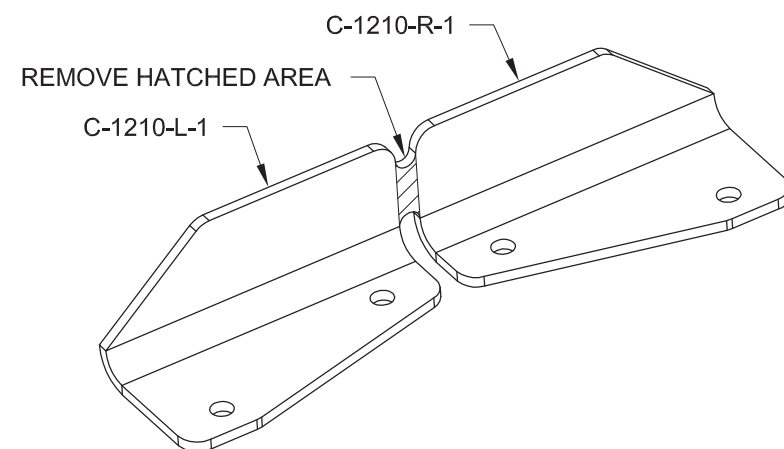

FIGURE 1:
Step 1: Cut the C-01210-1 Lift Handle into left and right parts as shown in Figure 1.